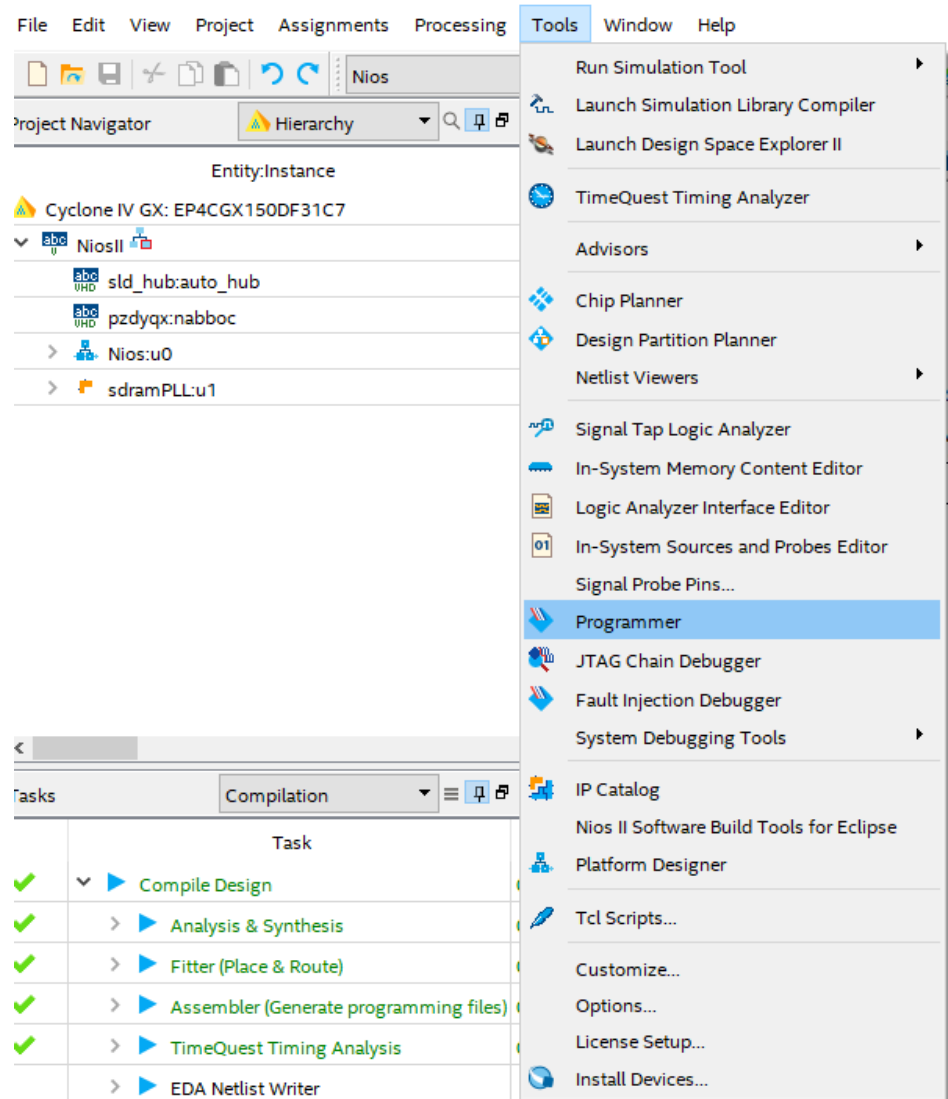

Figure 2-11 Quartus Programmer
6.) Now we are ready to download the program to the board. To do this we will choose **Tools** → **Programmer** as shown in Figure 2-11.